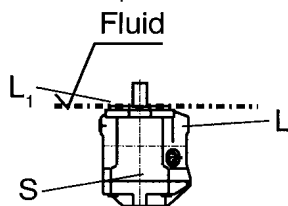

Fig. 1
a) If the minimum fluid level is maintained equal to or above the pump mounting surface leave ports "L", "L1" and "S" open (see Fig.1).